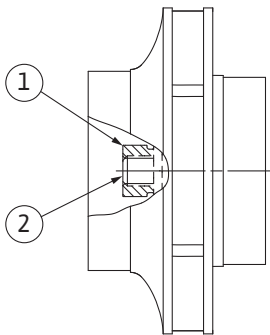

Fig. 101: Correct position of the impeller nut after installation
8. Hold the shaft with open-end wrench (22 mm width across flats) and tighten the impeller nut to the prescribed tightening torque (see table "Tightening torques" [► 145]). The nut (Fig. 101, Item 1) has to be about ± 0.5 mm flush with the end of the shaft (Fig. 101, Item 2). If this is not the case, release the nut and repeat steps 4 – 8.